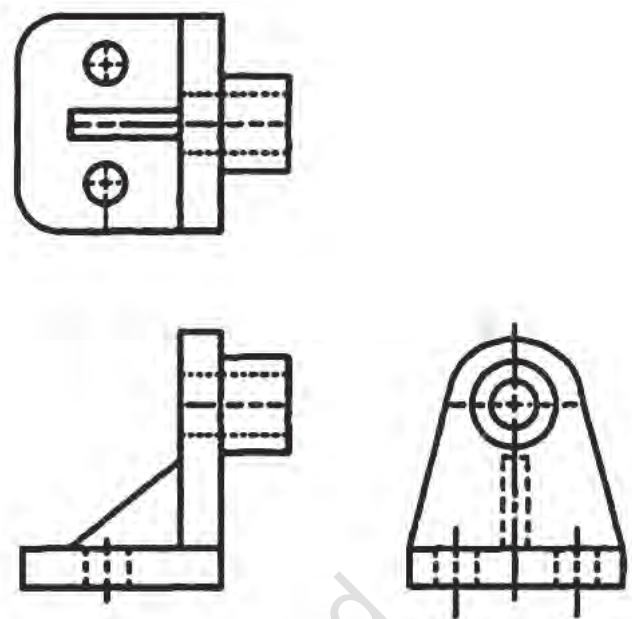

Fig. 6.40: Orthographic views
7. Check the places of the views shown in Fig.6.40. Person should understand orthographic drawings. As per practice, the top view is placed above the front view and the right-side view is placed to the right of the front view. If additional views are needed, the left side is always drawn to the left of the front view and the bottom is drawn below the front view. Placement of the back view is flexible; it is usually drawn to the left of the left-side view. When understanding the different orthographic views, a pictorial sketch should be prepared.